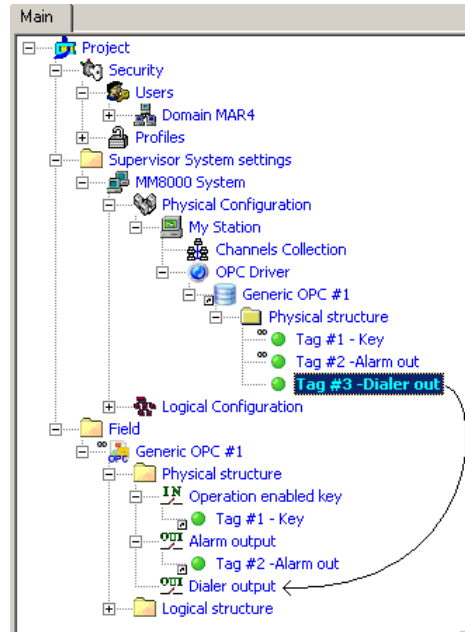

Fig 20 Linking OPC items and data points
3. Drag and drop each OPC item (Tag) node to the corresponding point (Fig 20)